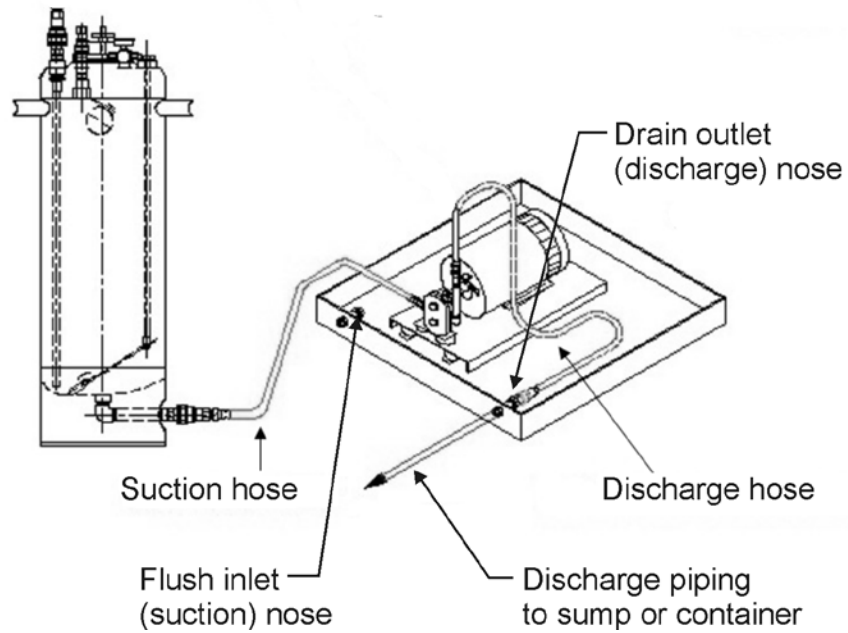

Figure 2—Hose connections for draining sample product or cleaning product
- a. Remove the discharge hose QD coupler from the discharge line at the top of the receptacle and connect it to the drain outlet nose inside the drain table (Figure 2)
- a. Remove the discharge hose QD coupler from the discharge connection on the receptacle and connect it to the drain outlet nose to drain the cleaning product (Figure 2).